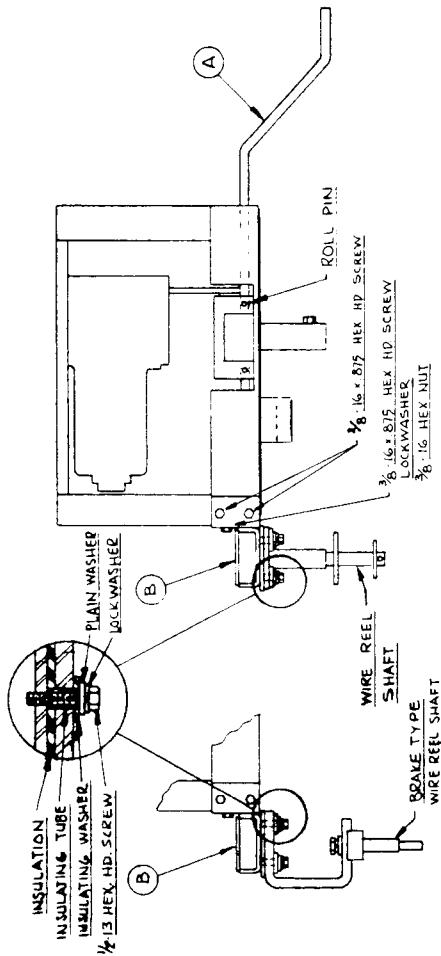
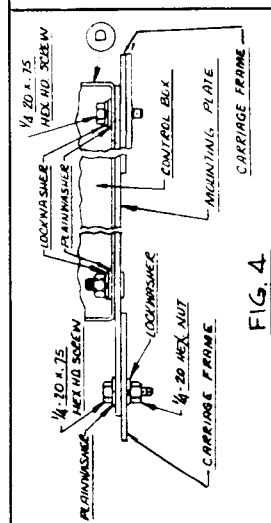

Fig. 1
Fig. 2
- A. Insert the clutch handle (A) thru the hole in the right hand side of the carriage. Push the handle thru the carriage frame until the end goes into the lift yoke. Line up the roll pin hole in the yoke & crank and then insert the roll pin, which is shipped taped to the crank handle. Drive the roll pin until it is flush with yoke arm surface.
- B. Install the wire reel mounting bracket (B) to the upper left front corner of the carriage using the hardware supplied. For LAF-3, -4, & -5, install wire reel shaft, supplied with the head, per Fig. 1. For MA-3 & MA-4, install wire reel shaft, supplied with the head, per Fig. 2. In either case, wire reel shaft must be electrically isolated from carriage frame.